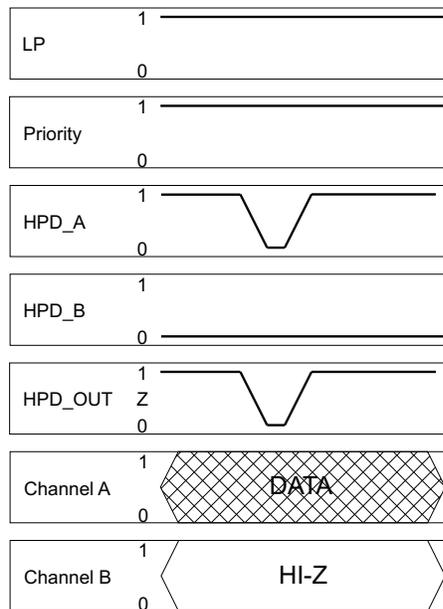
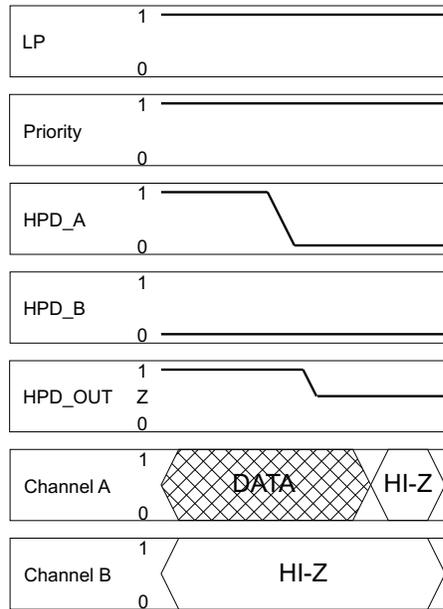

Figure 20.
Figure 21.
- Case one: In this case only one HPD input is initially HIGH. The HPD output logic state follows the state of the HPD input. If the HPD input pulses LOW, as may be the case if the Sink device is requesting an interrupt, the HPD output to the source also pulses LOW for the same duration of time with a slight delay (see Figure 20). The delay of this signal through the SN75DP128A is specified as  $t_{PD(HPD)}$ . If the duration of the LOW pulse is less than  $t_{M(HPD)}$ , it may not be accurately repeated to the source. If the duration of the LOW pulse exceeds  $t_{T2(HPD)}$ , the device assumes that an unplug event has occurred and enters the low power state (see Figure 21). Once the HPD input goes high again, the device returns to the active state as indicated in scenario 1. The state of the Priority pin has no effect in this scenario as only one HPD input port is active.